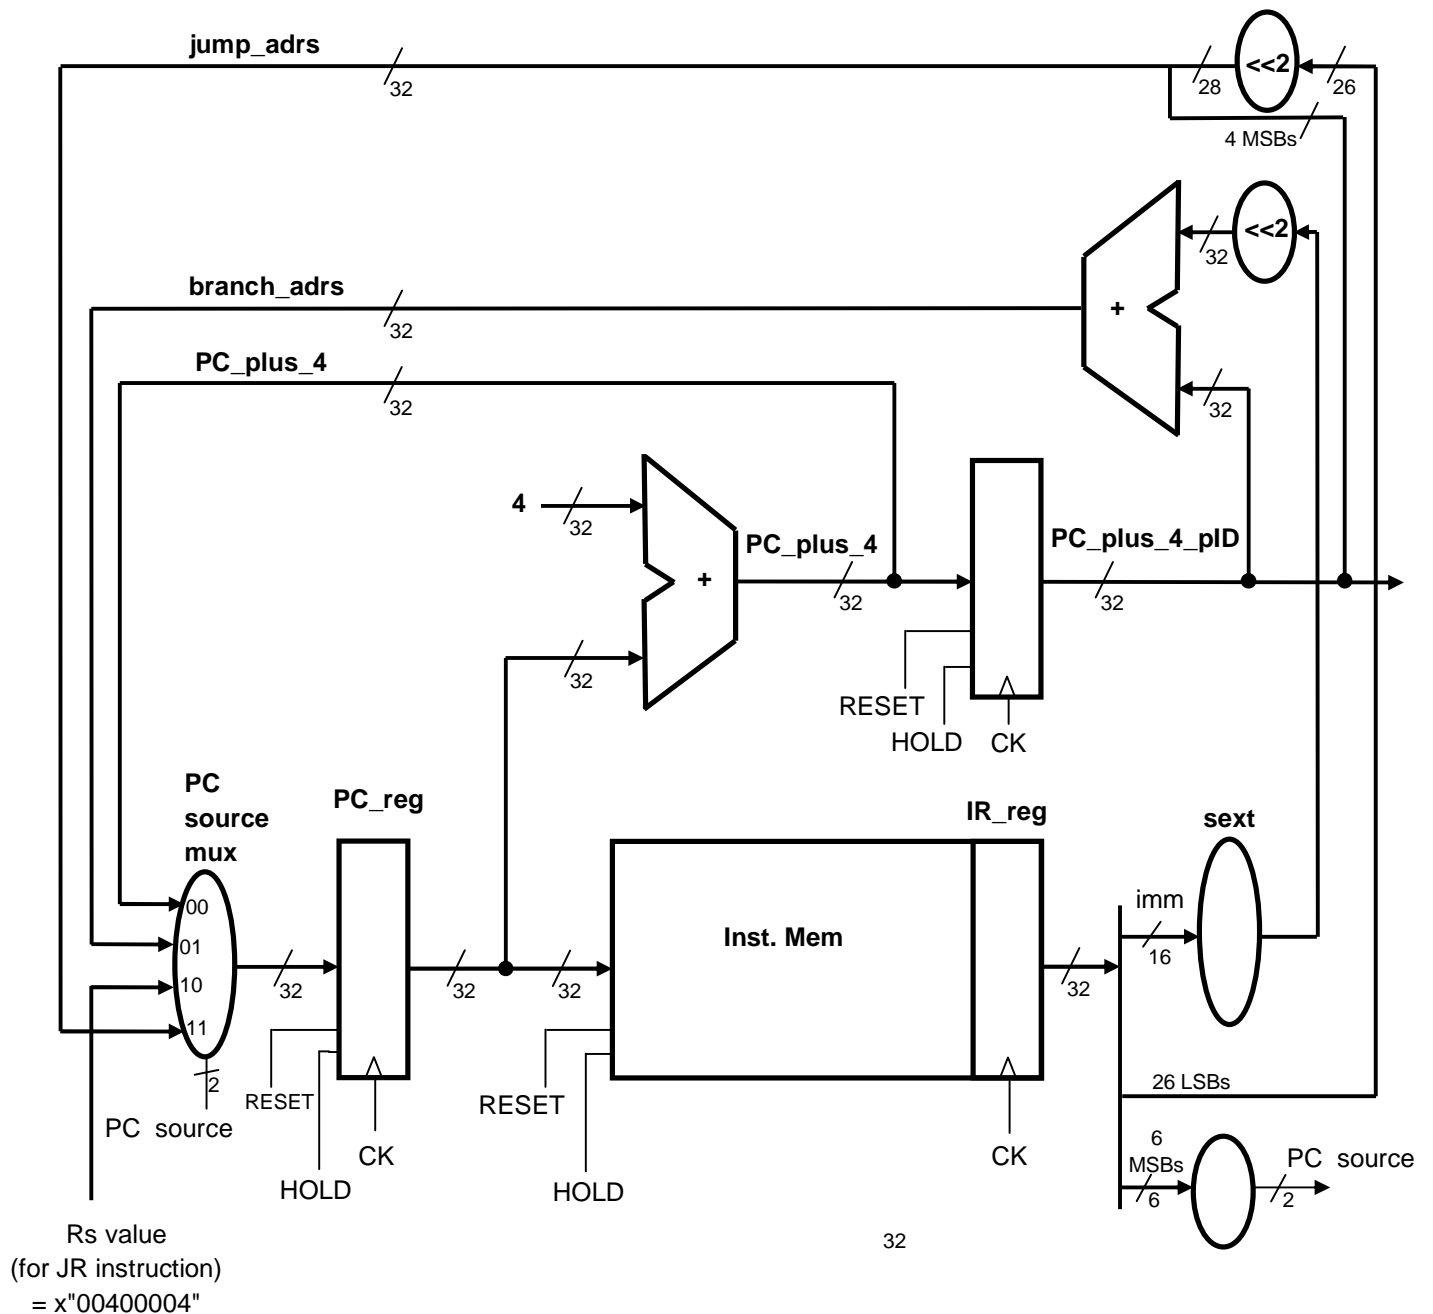

Fig. 1 – The Fetch Unit
The Fetch Unit's main components are the PC register (PC_reg) and Instruction Memory (IMem). The PC_reg is a 32 bit register that advances by 4 in every clock. Thus we should have also a 32 bit Adder that adds 4 to the current PC_reg value. In order to jump or branch, we need to input the jump address or branch address to the PC register. Thus, we have a multiplexer at the input of the PC register. This is depicted in Fig.1 above
The Fetch_Unit you design is a new entity. We will use it inside the **HW2_top_4sim.vhd** design which you will find in the course web site. Inside the Fetch_Unit entity we need to define all signals then, you should write the equations of the PC_reg, PC_plus_4 adder, branch_adrs, jump_adrs, jr_adrs, PC_source mux, sext_imm and the instruction decoder producing the PC_source signal. We will call the file describing the Fetch Unit **Fetch_Unit_4sim.vhd**. The MIPS instruction coding is described in Appendix A at the end of this document. Note that all of the elements shown in Fig.1 (beside the IMem) will be in the same file, the Fetch_Unit.vhd. Do NOT implement these elements as entities (components)!
The light blue part is the entity you design. It is called the **Fetch_Unit.vhd**. Actually, you start with a simulation version, so it should be called the **Fetch_Unit_4sim.vhd**. Your design includes all signals, registers and logic we saw in Figure 1 except the IMem and IR itself. The IMem & IR are implemented for you in advance in a component called **Fetch_Unit_Host_Intf_4sim**. Another important pre-prepared component is the **Clock_driver_for_sim.vhd**. All of these 3 components (the pre-prepared two and the Fetch_Unit you designed), are “wrapped” by another pre-prepared file called **HW2_top_4sim.vhd**. It only connects all of the 3 components and the Test Bench.
- 2) **Fetch_Unit_4sim.vhd** - your design implementing figure 1
You now have to write the equations describing the logic circuitry of Figure 1. For that we also listed the required functionality inside the “empty” file – with remarks.
- 3) **Fetch_Unit.vhd** - your design implementing figure 1.